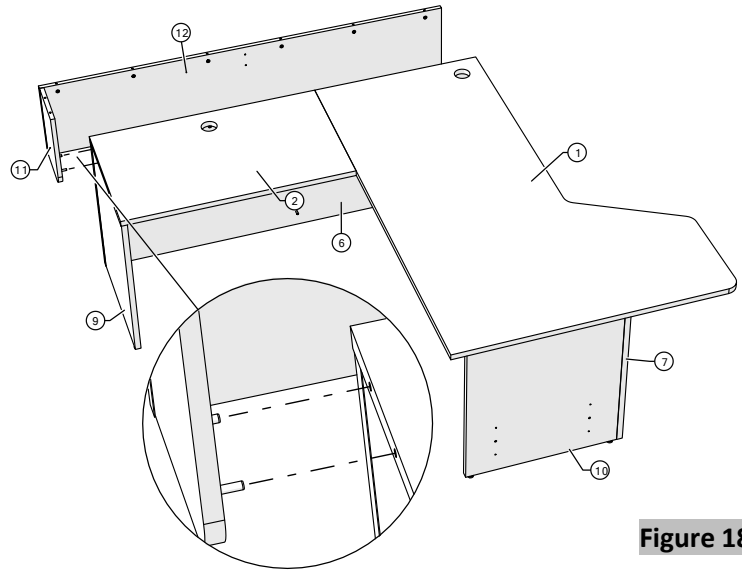

Figure 18
21. Position the assembled unit (angled reception countertop modesty return, and reception countertop side) by inserting the wooden dowels into the side holes of the worksurface return; align the assembled unit with the desk (Figure 18).